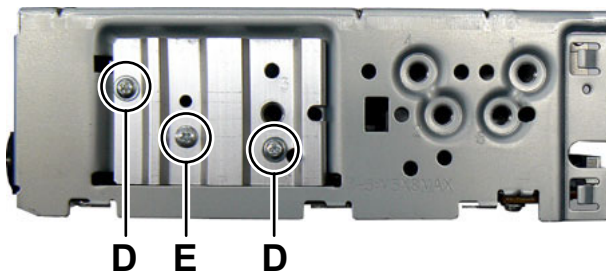

Fig.3
3.1.3 Removing the Main board (See Fig.3, 4, 5)
- (1) Remove the two screws **D** and one screw **E** attaching the Side plate. (See Fig.3)